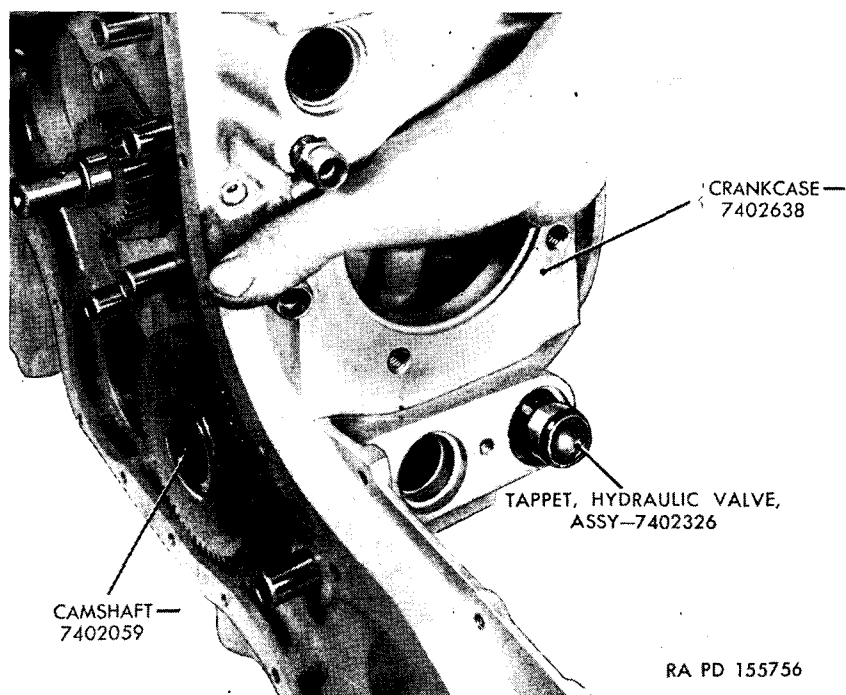

Figure 46. Removing valve tappets.
- a. Push hydraulic valve tappets part way out (fig. 46); then withdraw tappets from top of crankcase.